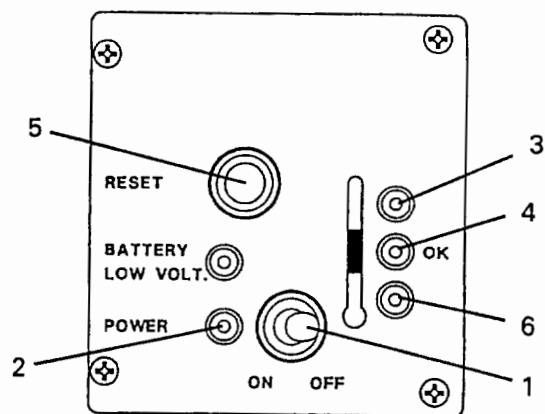

Figure 3-8 — Control Panel
312. Place the power switch (1) in the On position. The green power LED (2) should be continuously lit, if the green LED flashes there is a power loss and the refrigerator will not operate (Fig 3-8).
313. During the cool down period the red temperature LED (3) will flash (Fig 3-8).
314. When the operating temperature is reached (between 3°C to 6°C) the green temperature LED (4) will light. The red temperature LED (3) will continue to flash indicating the temperature was too high (Fig 3-8).
315. Push down the reset button (5), this will stop the red temperature LED from flashing (Fig 3-8).
318. Should the temperature drop below 3°C the red low temperature LED (6) will flash (Fig 3-8).